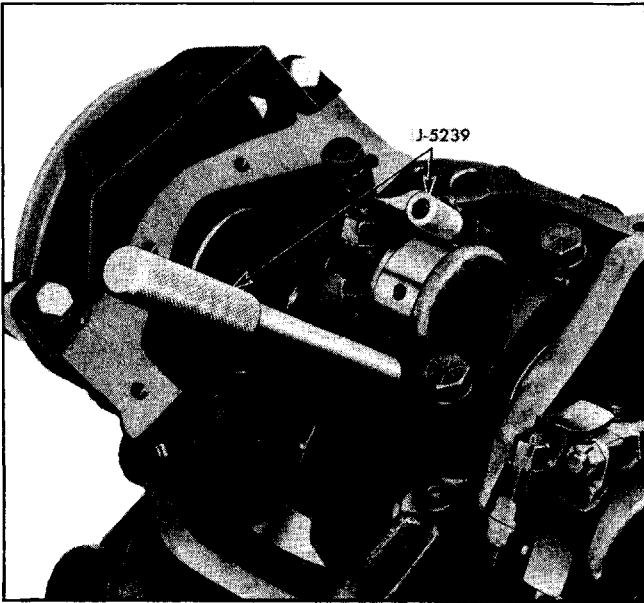

Fig. 6-33 Removing Connecting Rod and Piston Assembly
5. Remove bearing cap and install Connecting Rod Bolt Guide Set J-5239 (Fig. 6-33).
c. Install Connecting Rod Bolt Guide Set J-5239 on connecting rod bolts (Fig. 6-33).